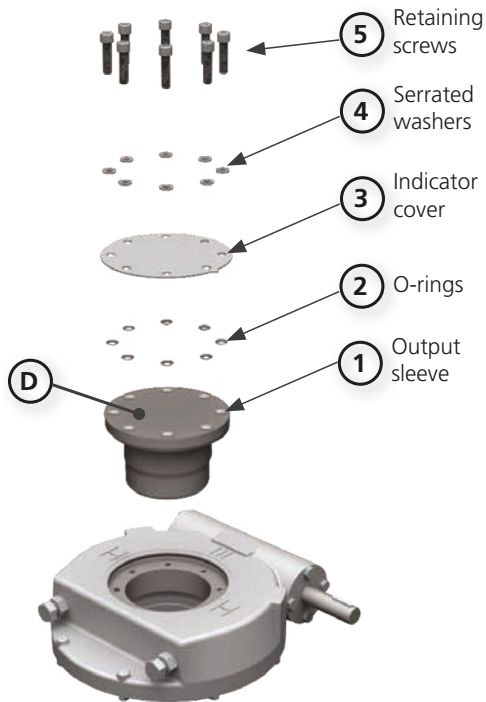

Figure 1 – Output sleeve arrangement
All gearboxes except for IW12 to IW17 and HOW13 have a removable output sleeve (item 1, Figure 1). Unless specifically requested at the ordering stage, the output sleeve will be supplied blank and must be machined to suit the valve shaft.
Figure 1 shows the arrangement of the output sleeve in the gearbox. See Figure 2 for removing the output sleeve without damaging the sealing faces.
Referring to the item numbers in Figure 1, the output sleeve can be easily removed from the top of the gearbox by first removing the retaining screws (5). The screws are either serrated under their heads or are fitted with serrated washers (4). Then remove the indicator/cover plate (3).
Referring to Figure 1, O-rings (2) are used to seal the indicator plate, output sleeve and retaining screws. Upon final installation on the valve, screws (5) must be tightened to the correct torque figures as shown on the label on the underside of the indicator/cover plate.
Before re-assembly, clean and de-grease the top face of the output sleeve, underside of the indicator/cover plate, and the socket head cap screws. Make a note of the tightening torque required for the output sleeve screws on the label on the underside of the indicator plate. Insert the screws and washers into the holes in the indicator/cover plate, as per Figure 1.
As detailed in Figure 1 and Figure 2, it is recommended that silicon sealant is applied to face 'D' to seal the indicator/cover plate to the output sleeve, taking care not to apply sealant to the O-rings (2) or the sealing faces with the O-rings. For acceptable sealants, see Table 4 on page 16.